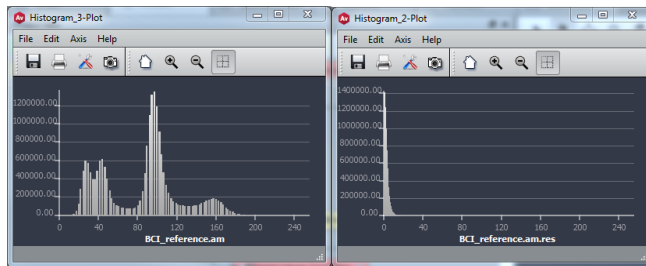

Figure 19.13: Histogram of the Reference Volume (left) and Residual (right)
- Uncheck logarithmic plot option and change range to [0;255] for both histograms. Click **Apply** for both (see result on Figure 19.13).